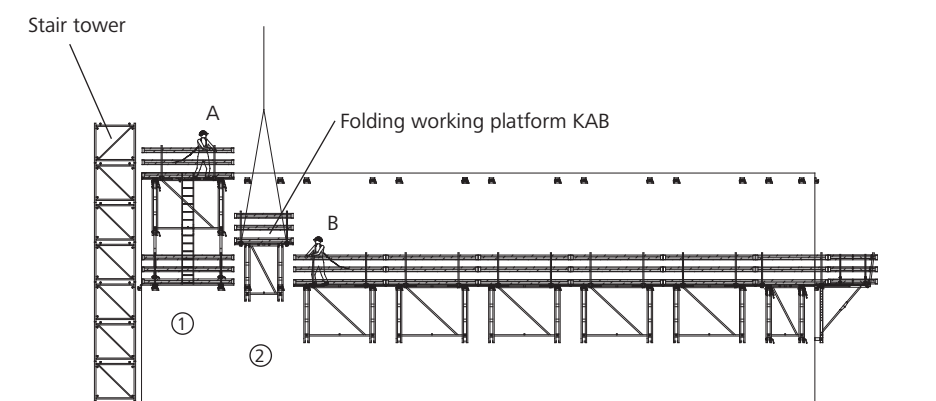

Fig. 30.1
9. The platform KAB (2) is pulled up by crane (Fig. 30.1) and suspended.